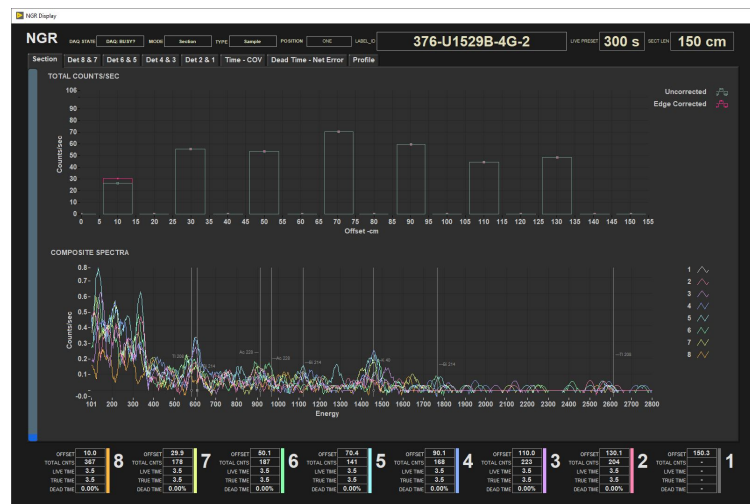

Figure 12. Core Analyzer Screen Showing Histogram.
- As the sensors take measurements, counts are plotted vs. sensor number on the main screen. Hit the Detail/Summary button at the upper right of the screen to switch between the histogram vs. binned mode displays. The button name changes from Summary to Detail, depending on which view is selected (Figure 12 and 13).